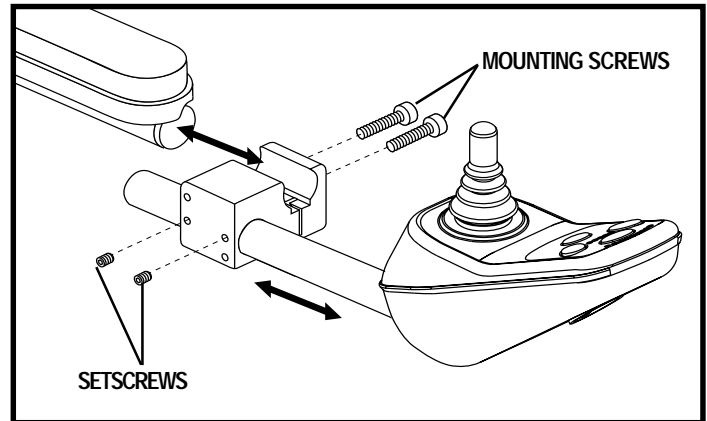

Figure 18. Adjusting Controller Position (Synergy Seat)
5. Loosen the mounting screws in the controller mounting block. See figure 18.